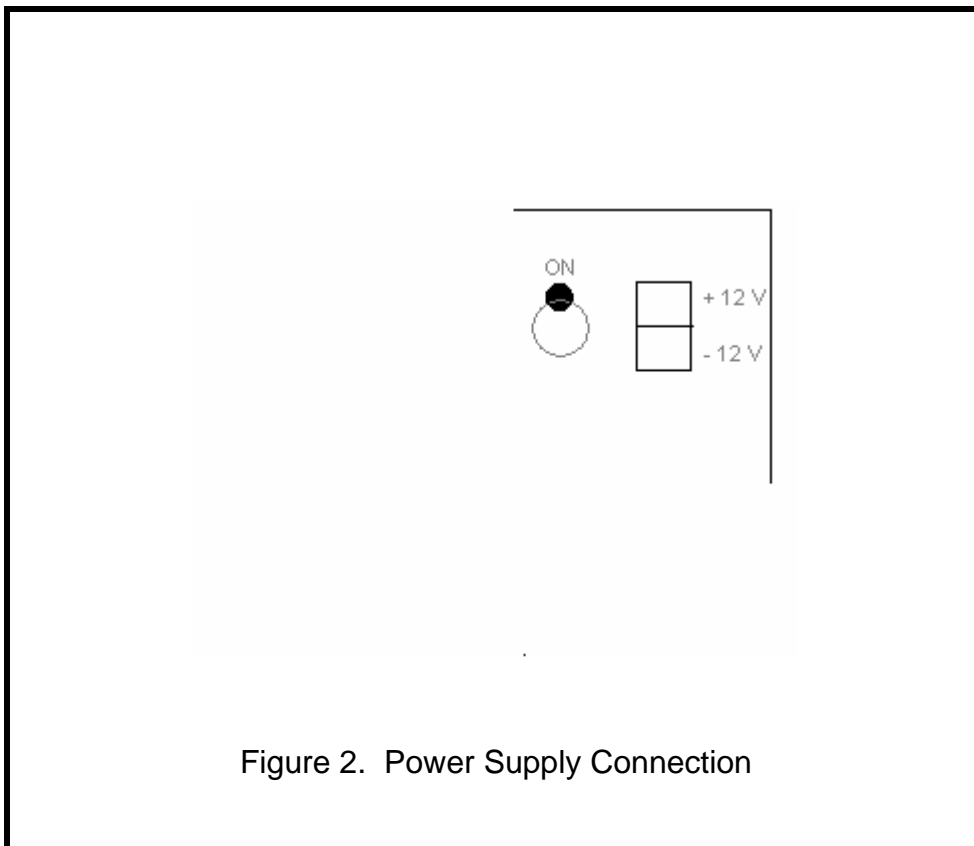

Figure 2. Power Supply Connection
**Step One - Connect the Power Supply** Connect the supplied external transformer to the 12 VDC terminals as shown in Figure 2 below. Plug the transformer into a MicroMax Surge Suppressor (Recommended by Microtel).